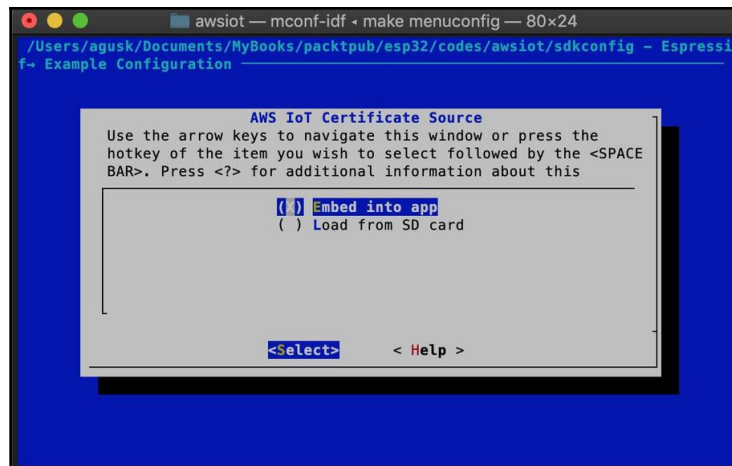

Figure 10.13: Selecting the embedded certificate files in the program
9. Then, you will get a form as shown in *Figure 10.13*.